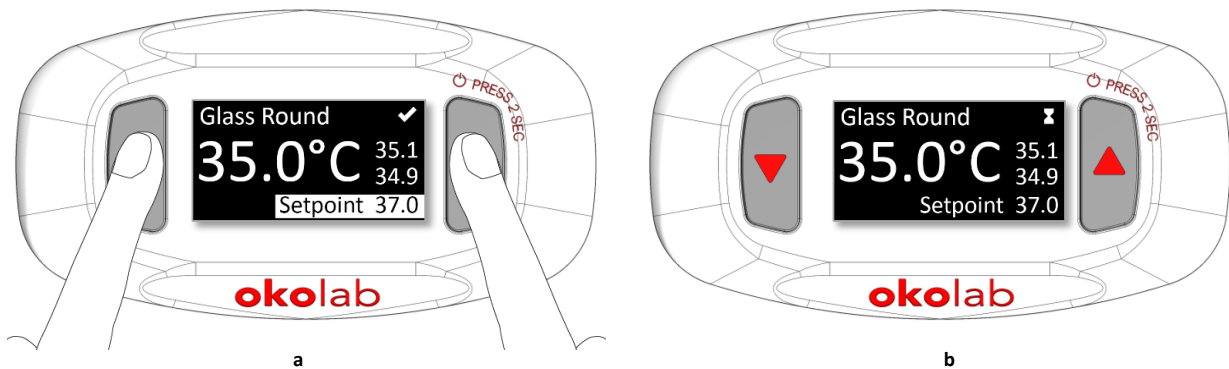

Figure 10. Confirm the Setpoint value (a - b).
3. Confirm the Setpoint value by pressing UP & DOWN buttons at the same time for 1 second (see Figure 10 a).
**Note** ► After any change in Setpoint value the controller enters into a transient regime. The Alert icon  will appear, as in Figure 10 b. During the transient regime, the controller will not go in alarm. As soon as H401-T-PENNY stabilizes the temperature of the heating device, the controller status changes to NORMAL and the Check Mark icon  appears.